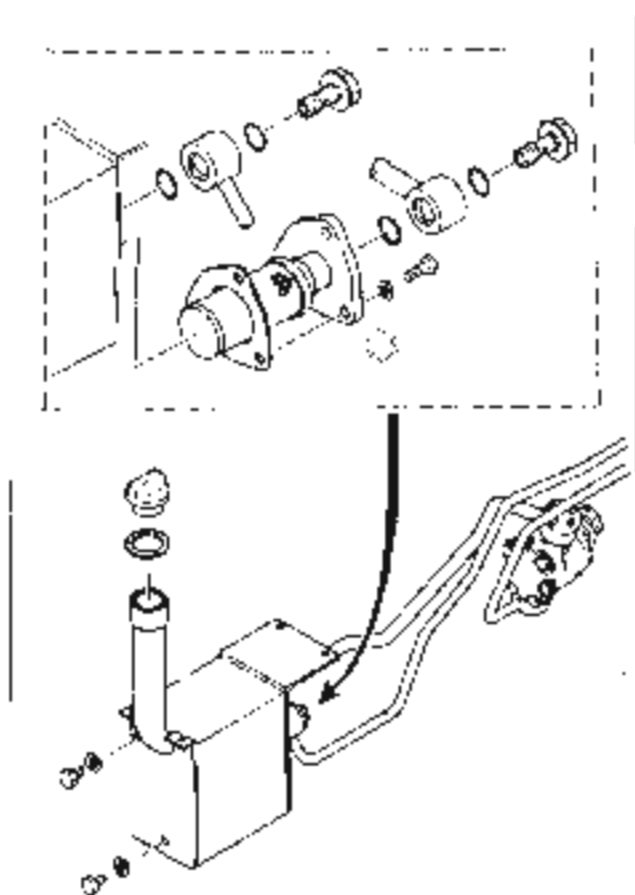

Figure 49 - Power Steering Oil Filter
**Changing Oil Filter:** Change the oil filter every 400 hours. The filter is located at the front of reservoir. Figure 49.